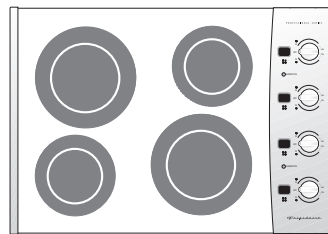
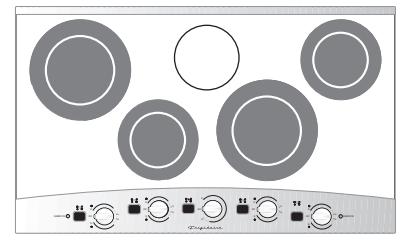
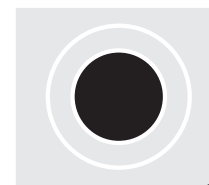
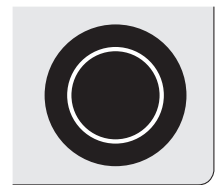

Fig. 3
Fig. 4
Fig. 5
Fig. 6
30" cooktop is equipped with dual radiant elements at all positions (see Fig. 3). 36" cooktop is equipped with dual radiant surface elements located at all positions except at the center rear position (See Fig 4). Symbols around the knob are used to indicate which coil of the dual radiant element will heat. The ● symbol indicates that only the inner coil will heat (Fig. 5). The ⊙ symbol indicates that both inner and outer coils will heat (Fig. 6). You may switch from either coil setting at any time during cooking.
2. Push in and turn the control knob counterclockwise (See Figs. 5 & 7) for smaller cookware or clockwise (See Figs. 6 & 8) for larger cookware to the desired setting using the ESEC digital display window for the desired setting.